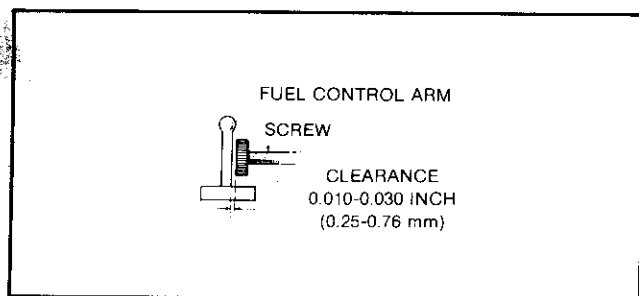

FIGURE 3-51. FUEL SOLENOID ADJUSTMENT
6. Adjust fuel solenoid plunger so that a 0.010 to 0.030 inch (0.25 to 0.76 mm) clearance exists (see Figure 3-51) between the plunger adjustment screw and the fuel control arm with the solenoid in deenergized position. To adjust the plunger length, hold the plunger, and adjust the screw on the plunger lever pin at the fuel shutoff position. Retighten locknut.